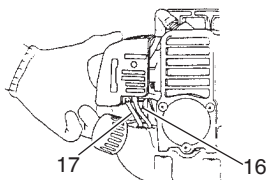

Fig. 12
- * Push priming bulb (16) several times so that fuel flows through return pipe (17). (Fig. 12)